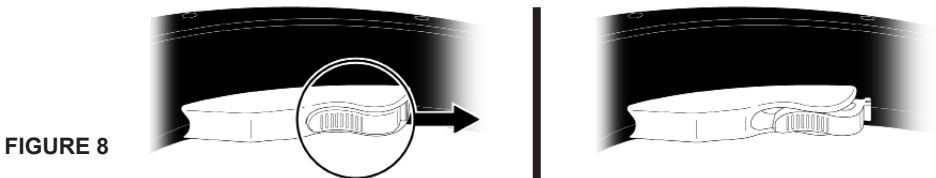

FIGURE 8
4. Keep Steam Trigger depressed for a continuous flow of steam. You may also slide the Steam Lock Switch backward while holding down the trigger to lock it down (FIGURE 8). This will allow a continuous flow of steam without the need of holding down the Steam Trigger manually.